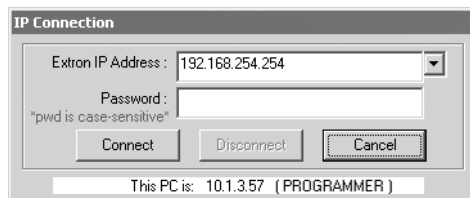

Figure 5-4 — Address and password entry
3. If you selected **IP [LAN]** in step 2, the IP Connection window appears (figure 5-4).